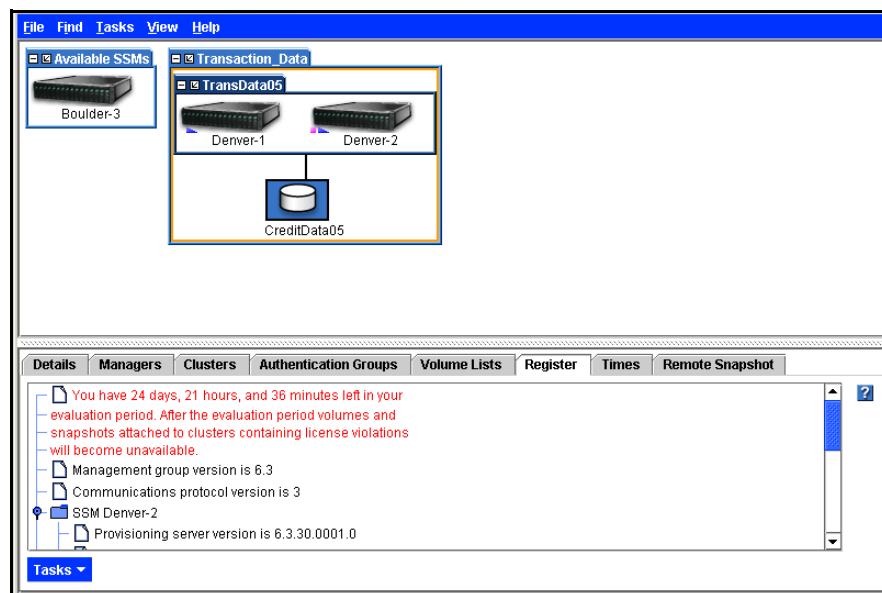

Figure 218. Registering Features and Applications
2. Select the Register tab, shown in Figure 218. The Register tab lists licenses that have been purchased. If you are evaluating features, the time remaining in the evaluation period is listed on the tab as well.